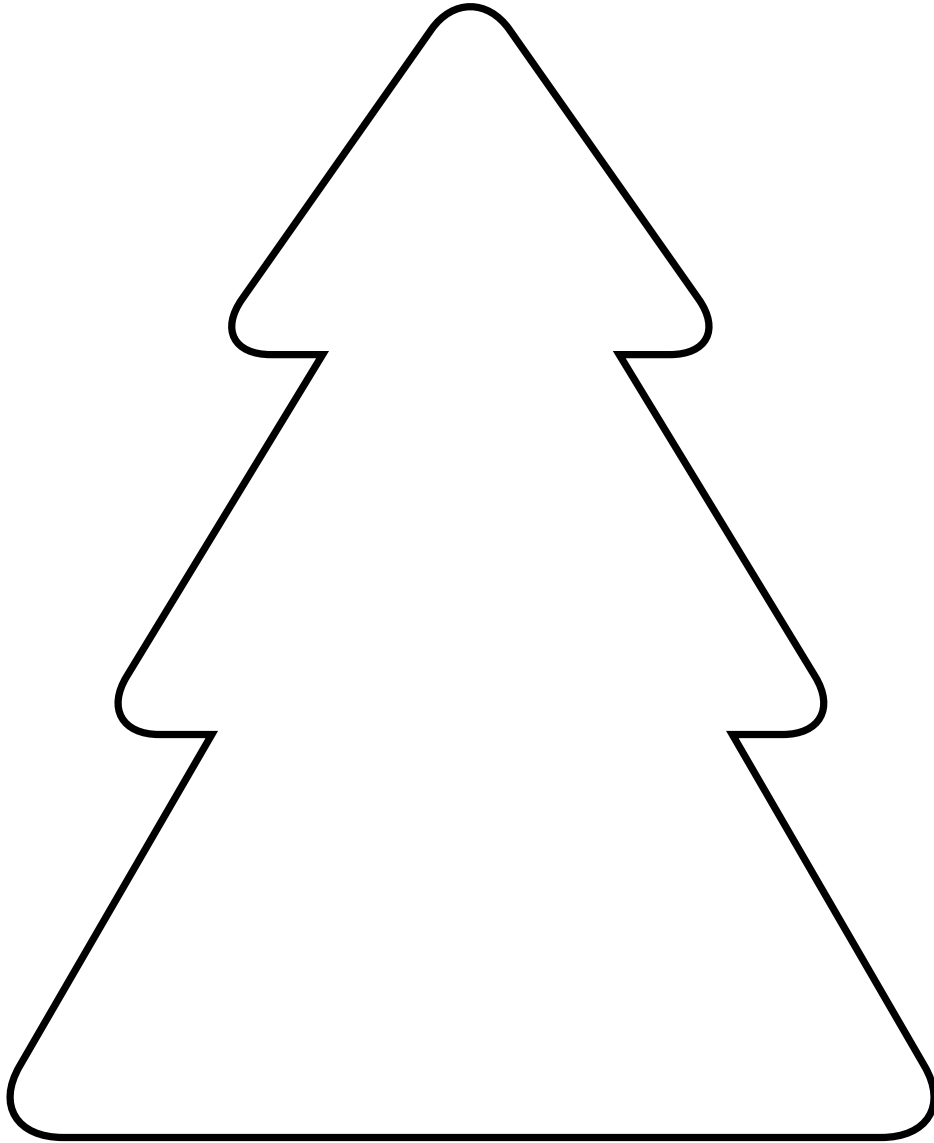

Figure 1: Outline of a stylized fir.
1. (6 points) Using a piece of cord, determine the length of the outline of the tree in fig. 1. Each person in your group must repeat the measurement independently at least one time and estimate the *systematic uncertainty* from measuring the cord's length. Take note of the measurements and their uncertainties in an Excel spreadsheet. Each of you should copy the data from the others, so that all of you have all measurement data and the uncertainties.